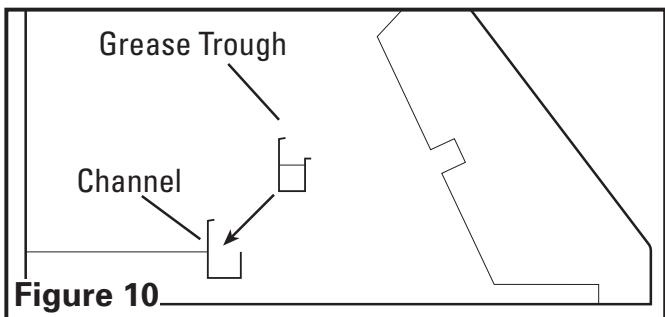

Figure 10
2. If the included removable grease trough is not already installed within the hood, insert into the rear inside channel of the hood. Make sure the taller side of the trough is facing towards the back of the hood (**Figure 10**).